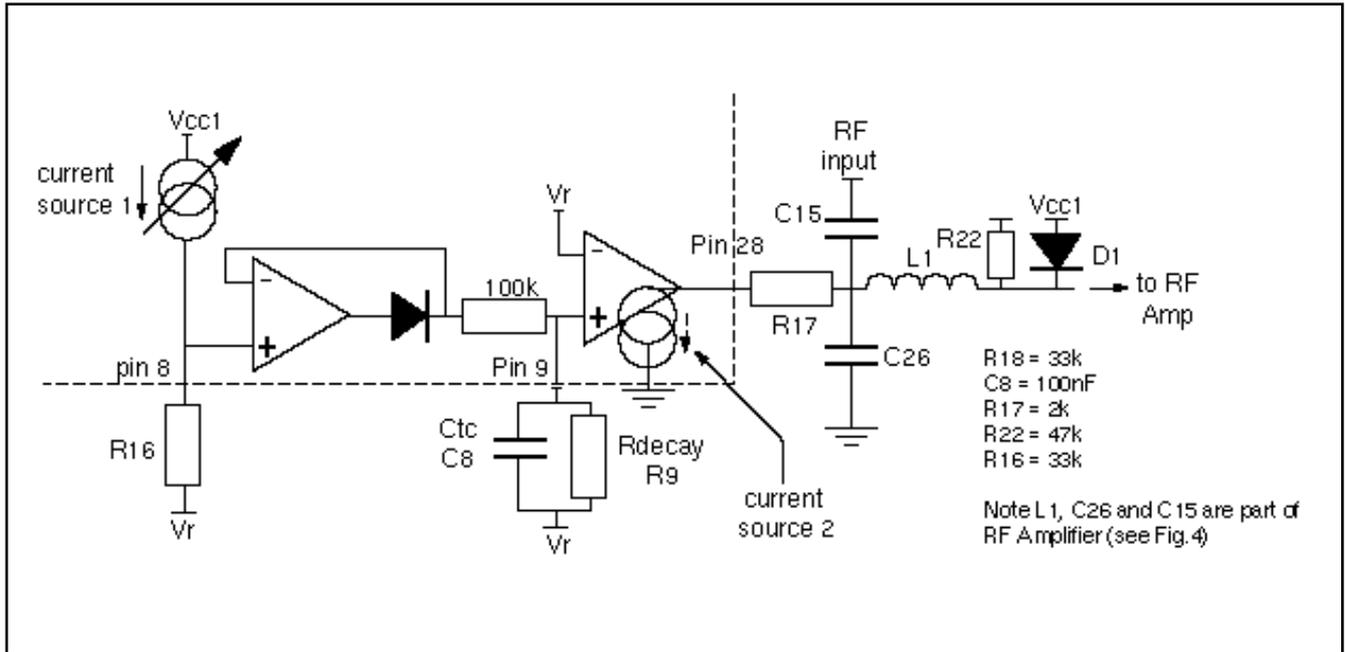

Fig.6 AGC Schematic
(IAGCOUT) to Vcc1., (R18). The voltage at Pin 8 may still be used as an RSSI. R9, C8, C14, C19, R17 and D1 may then be omitted. See figure.6 for AGC component values.
5. Suggested diode for use with the Audio AGC circuit (see figure.6) (D1 is not included on the general demonstration circuit).
4. R17 forms a part of the audio AGC circuit (see figure 6) and is determined by the voltage drop required to make the PIN diode D1, conduct to give the RF attenuation required. R17 should be sufficiently large to ensure the voltage at pin 28 does not drop below 200mV. The maximum AGC current expected is 85µA. For the characteristics of the audio AGC current source see